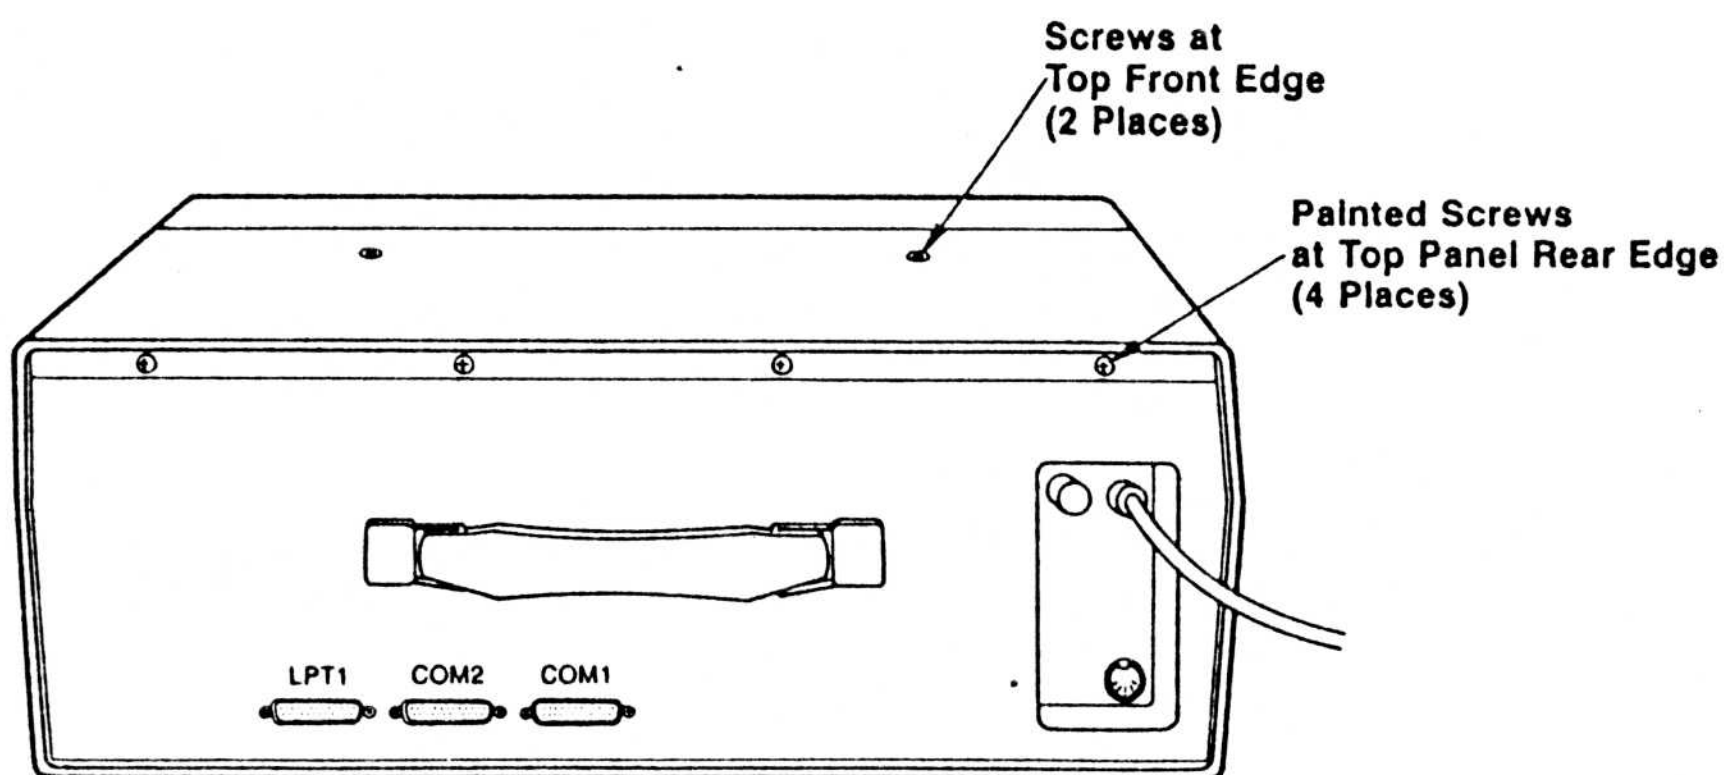

FIGURE 9: PC SPIRIT REAR VIEW
- STEP 4** Remove the four screws at the top edge of the rear panel, and two screws at the front edge on the top panel. Refer to Figure 9. Set the six screws aside in a safe place.